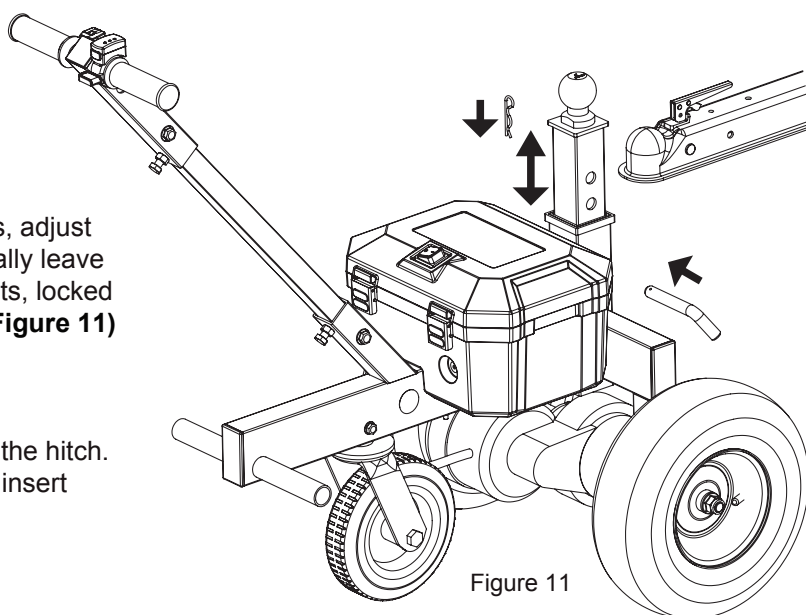

Figure 11
1. Move the dolly close to the trailer weld spots, adjust the ball hitch mount in correct height. Normally leave the hitch ball 100-200mm over the weld spots, locked the hitch ball mount by latch and pin. **(See Figure 11)**